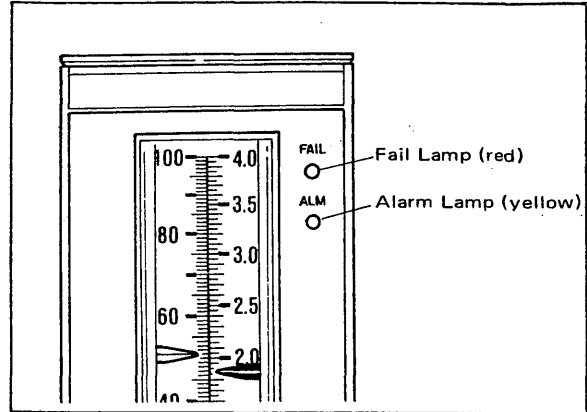

Figure 5-3-3. Fail and Alarm Lamps.
- (1) Alarm check (See Figure 5-3-3).